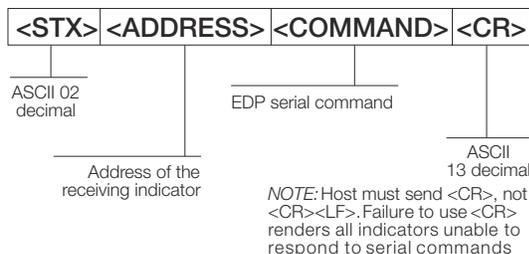

Figure 12-2. RS-485 Send Data Format
All remote commands are initiated using the data format shown in Figure 12-2:
**Example:** To send the XG command from an ASCII terminal to an indicator at address 65 (decimal) on the RS-485 network, use the format shown in Figure 12-2.
- The indicator address (65) is represented by an upper case “A”.
- The carriage return (CR) character is generated by pressing the ENTER key.